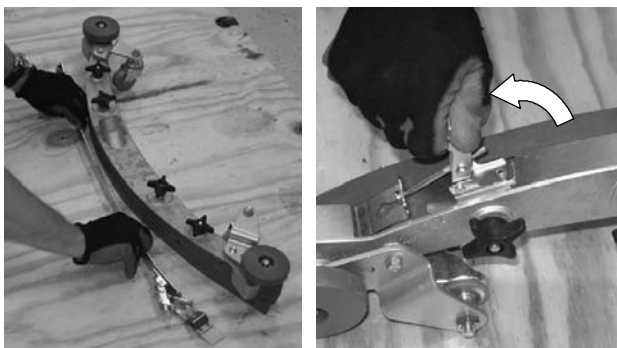

FIG. 50
2. Loosen the band clamp and remove the band from the squeegee assembly (Figure 50).